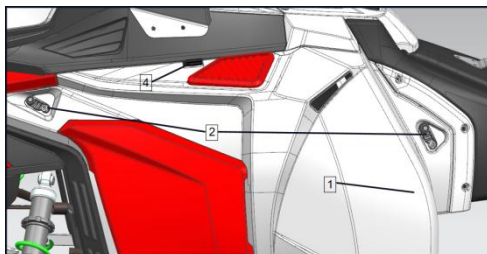

Fig. 31
3. Tighten the back of the panel (Pose 1, Figure 31) by 1 – 1.5 cm to unhook the fixing screws from the panel.